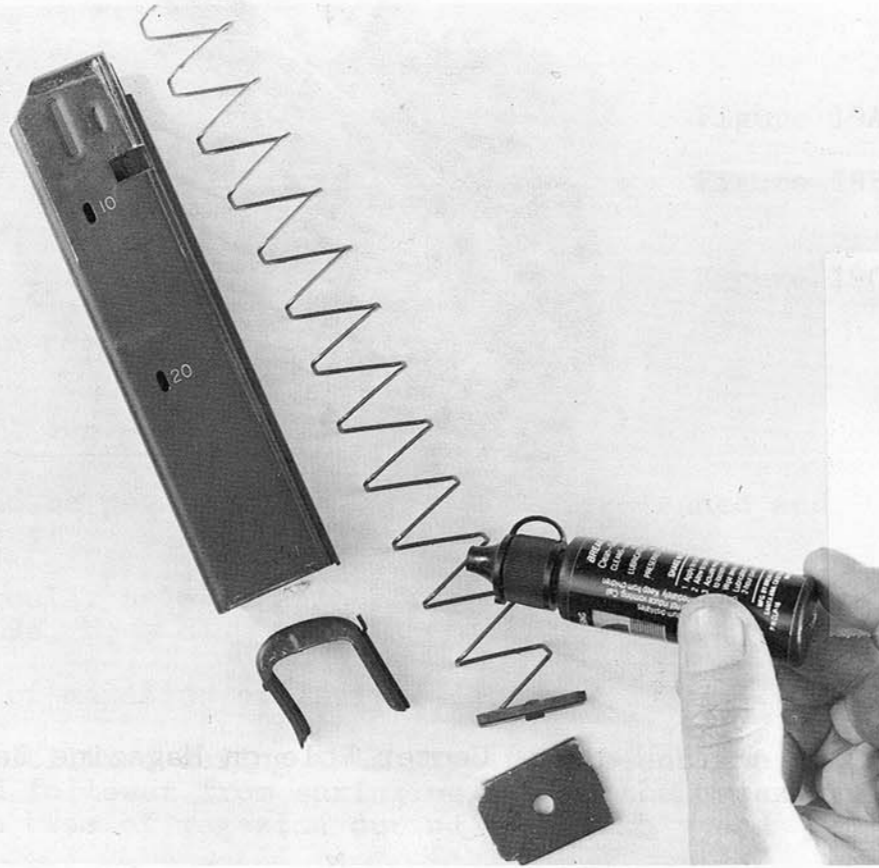

Figure 19C. Field Disassembly of SMG Magazine
3. Remove magazine spring and follower Figure 19C